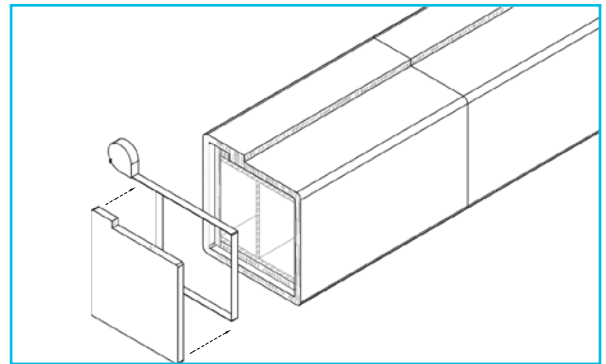

Figure 1
- 1 Ensure that the final section of the first layer of E-Mat wrapped on the beam extends beyond the beam termination sufficient that all required layers of the end cap will fit inside the end piece. Measure the inside perimeter of the first layer of E-Mat (installed on the beam). Cut out a piece of E-Mat to fit securely inside the first layer of installed E-Mat (*Figure 1*).